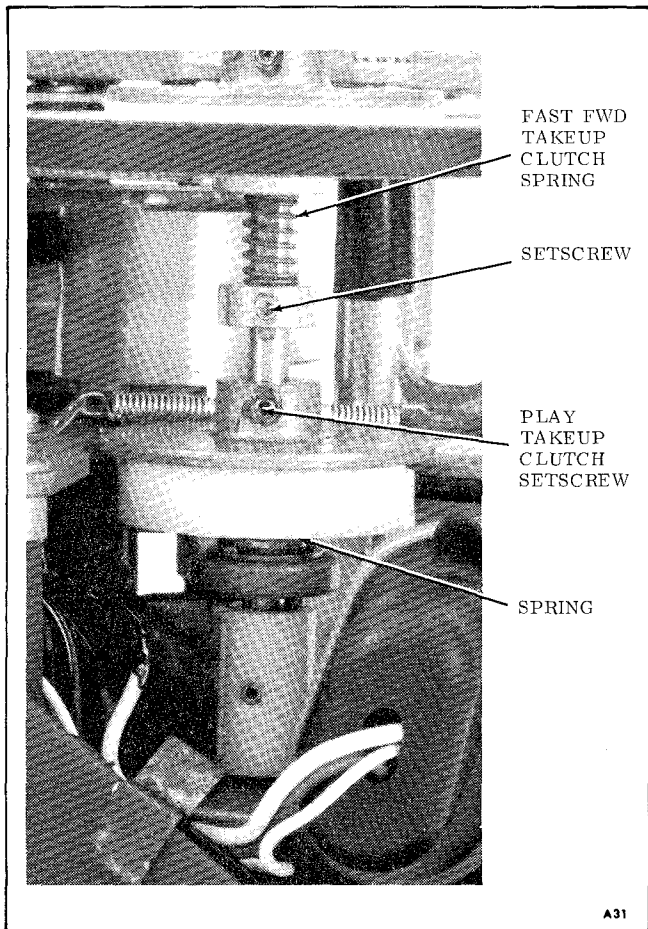

Figure 5-2. Takeup Torque Adjustment
**5.8 TAKEUP REEL TORQUES** (See Figure 5-2)
**5.12 PLAY TAKEUP CLUTCH** (See Figure 5-2)